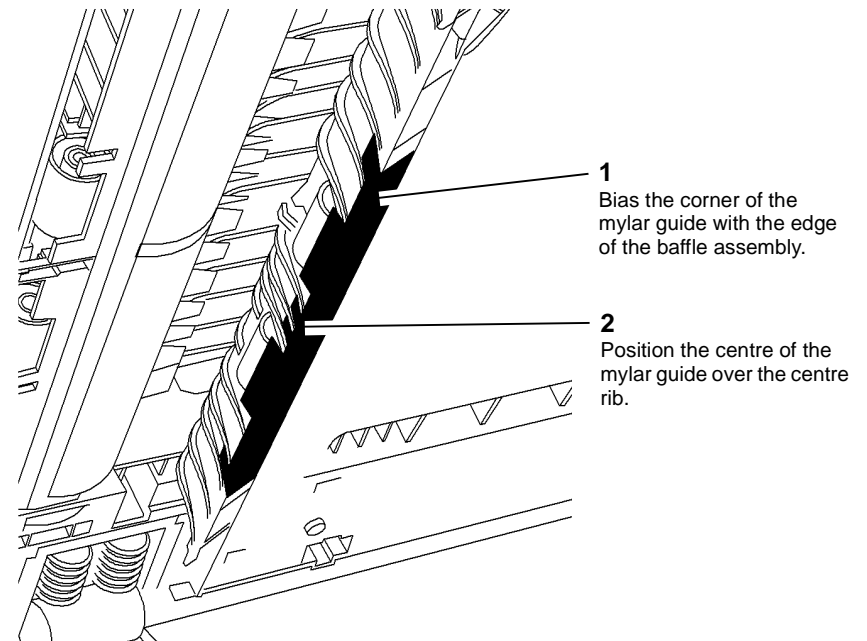

Figure 1 Mylar guide
2. Adhere the mylar guide to the baffle assembly, Figure 1.